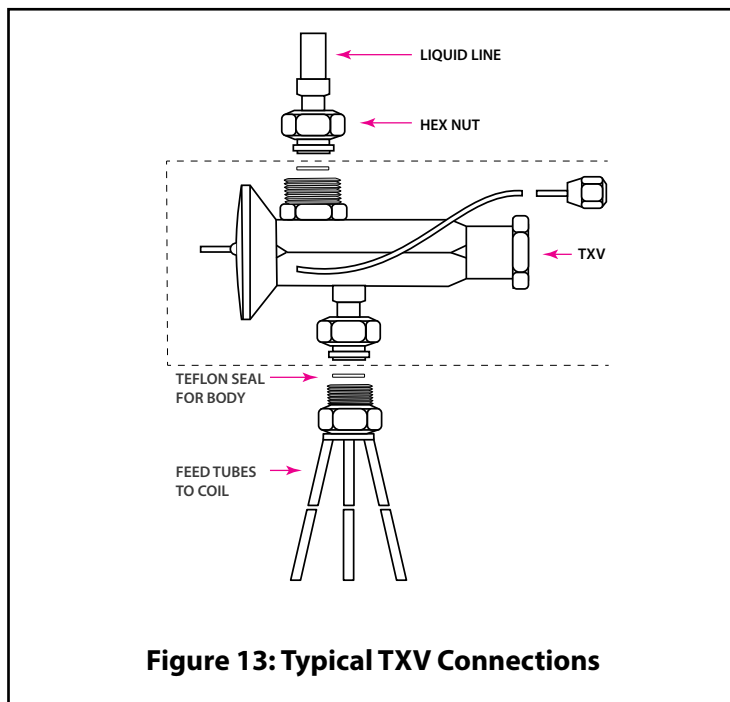

Figure 13: Typical TXV Connections
5. As shown in Figure 13, the TXV assembly must be installed between the distributor and the liquid line connector.